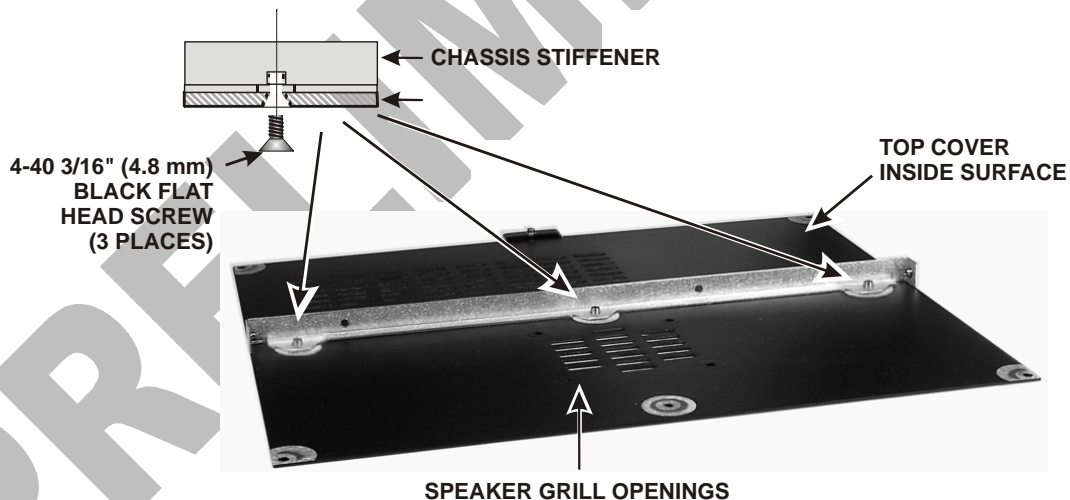

Figure 59. Attaching Chassis Stiffener to Top Cover.
- If you have installed the KPA3 100-watt amplifier module in your K3, the chassis stiffening bracket is already in place. In that case skip this step. Otherwise mount the chassis stiffening bracket on the underside of the cover as shown in Figure 59. Do not use washers.